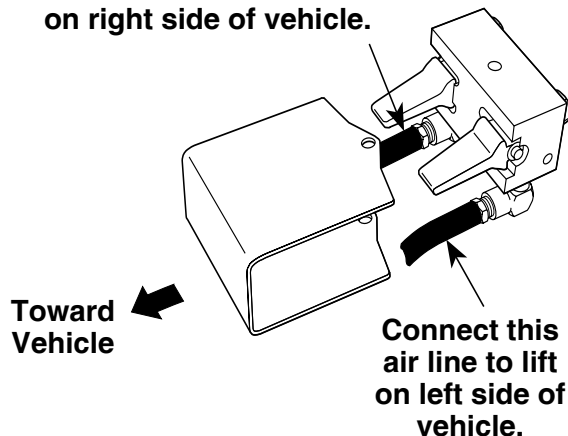

Figure 5
7. Position yourself at the front or rear of the vehicle so both lifts are visible. Facing the vehicle, hold the air control unit with the levers pointing toward the vehicle and the quick couplers on the underside of the unit. See Figure 5.
5. Connect the air hose from the lift on your right to the right side of the air control unit. Connect the air hose from the lift on your left to the left side of the air control unit. See Figure 5.